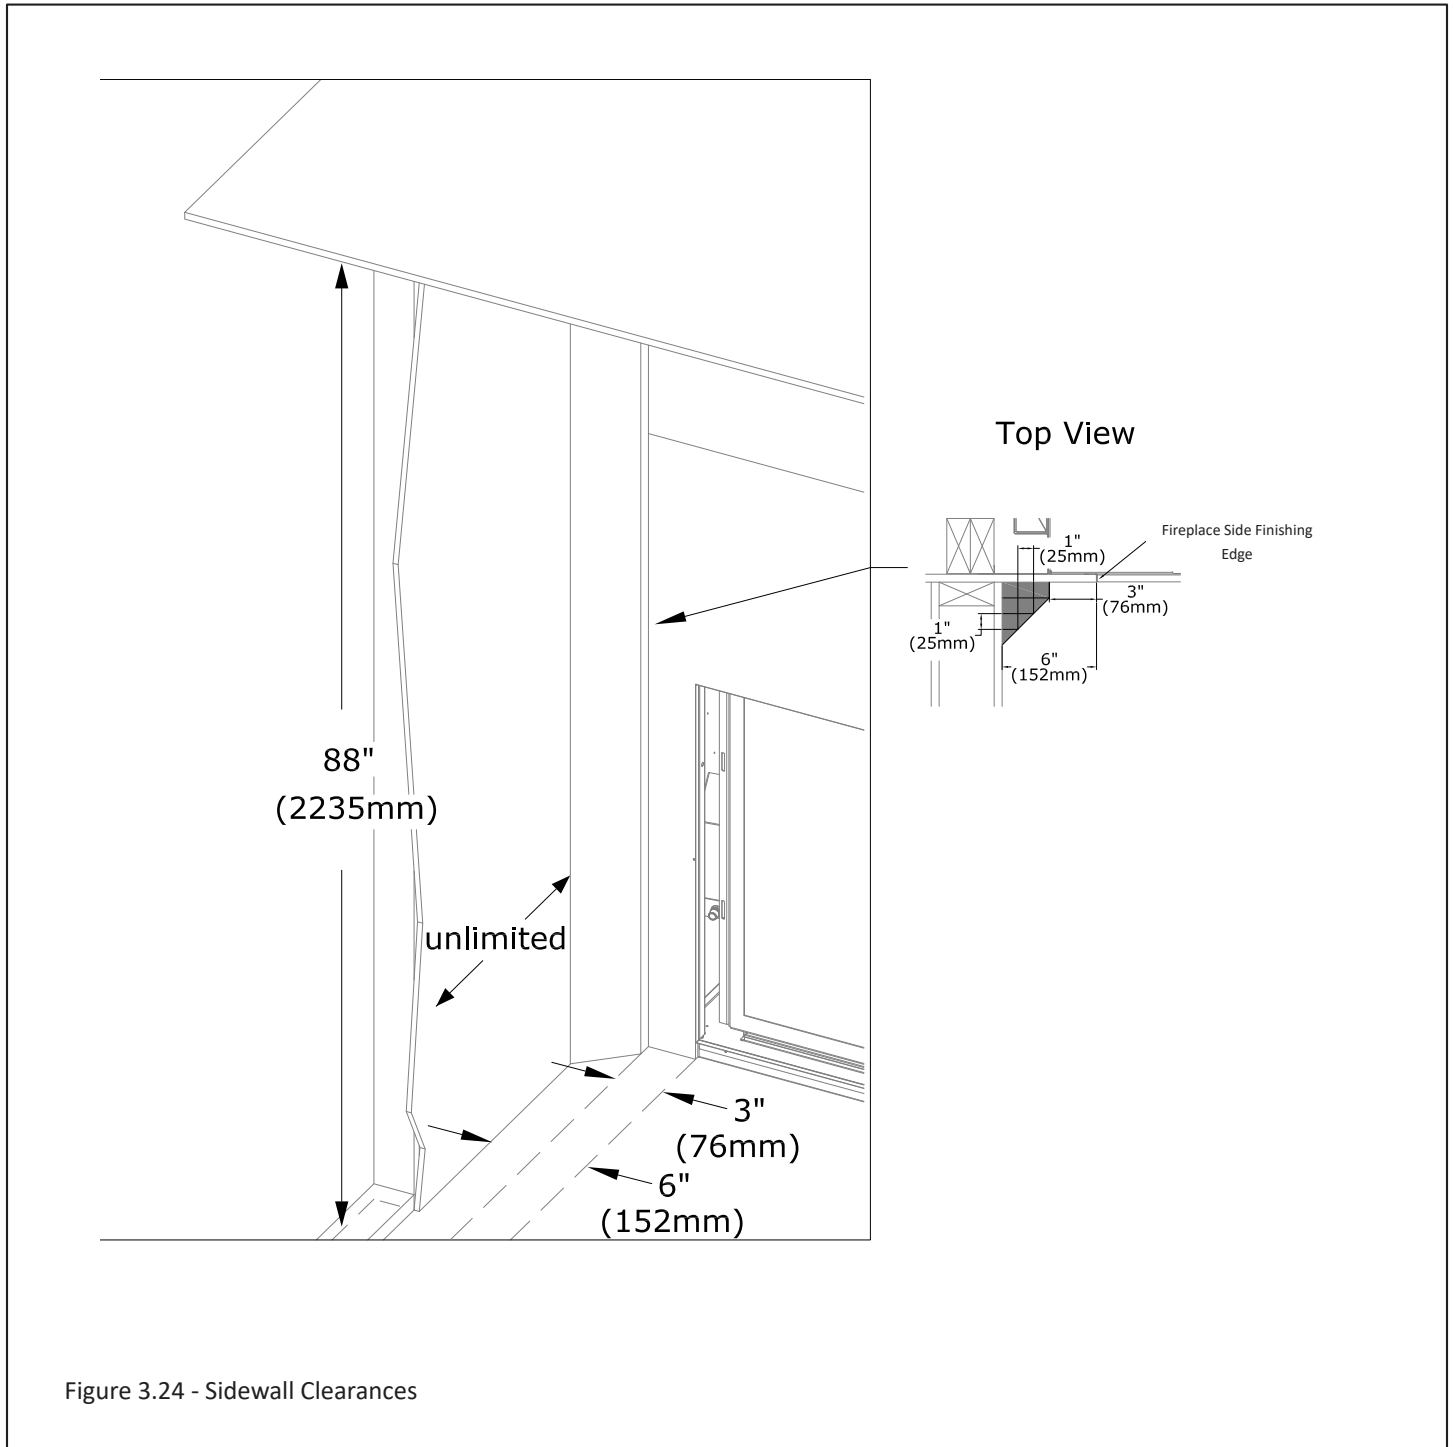

Figure 3.24 - Sidewall Clearances
- Mantel Leg: Follow "Combustible Sidewall Clearance" below. See Figure 3.24.
- Combustible Sidewall Clearance: 1" (25mm) combustible side trim projection starts at 3" (76mm) from the side finishing edge. After the first 6" (152mm) from the side finishing edge, the combustible side trim projection is unlimited. See Figure 3.24.
- Figure 3.24 shows the adjacent 1" (25mm) combustible sidewall trim projection starting at 3" (76mm) from the fireplace side finishing edge. After the first 6" (152mm) combustible sidewall trim projection from the fireplace side finishing edge, the combustible sidewall projection is unlimited. If you are using the optional rectangle surround on the fireplace opening please provide the necessary clearance. For more information see Section 3.1.2.